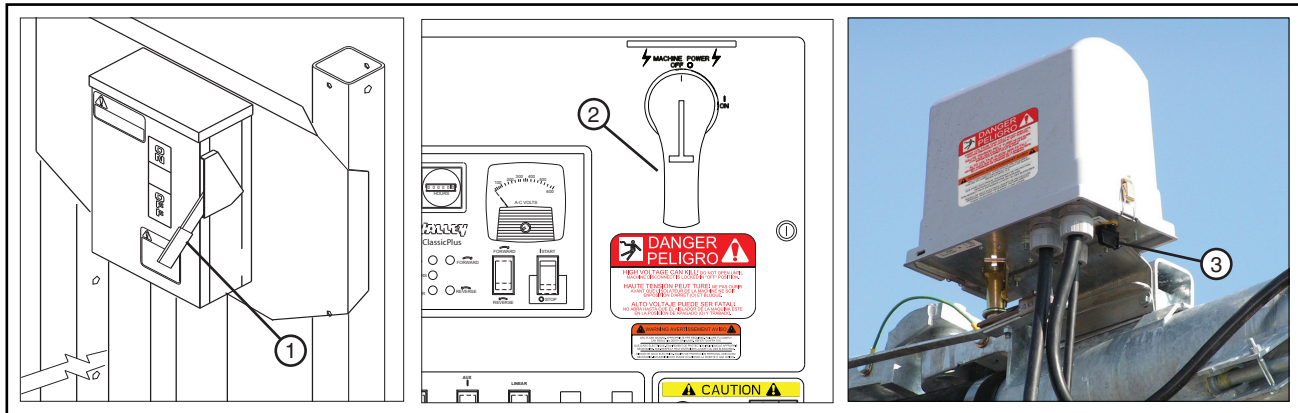

Figure 76-1 1. Main Service Disconnect Switch
- Main Service Disconnect Switch from public power to the control panel. See figure 76-1.
- Control Panel Main Disconnect Switch. See figure 76-1.
- Any Tower Box Disconnect Switch. See figure 76-1.